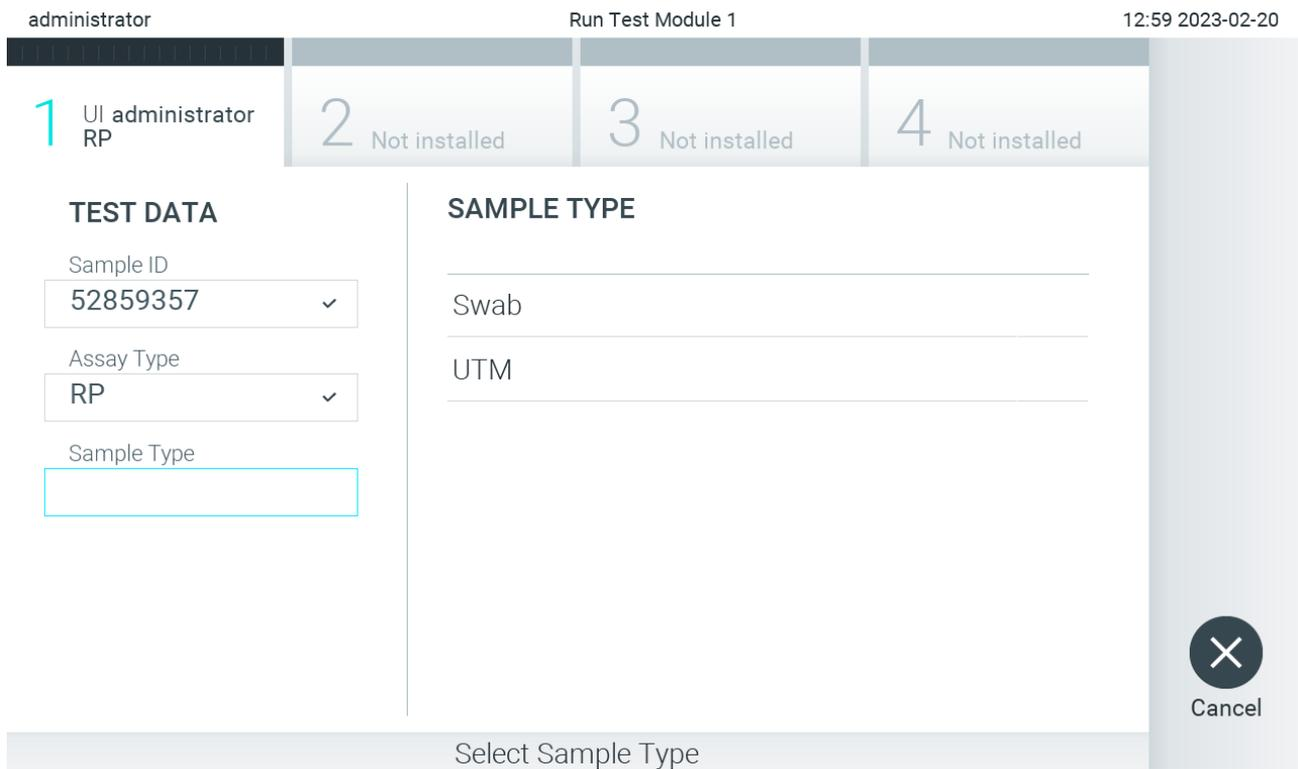

Figure 25. Selecting a sample type.
4. If required, select the appropriate sample type from the list (Figure 25).